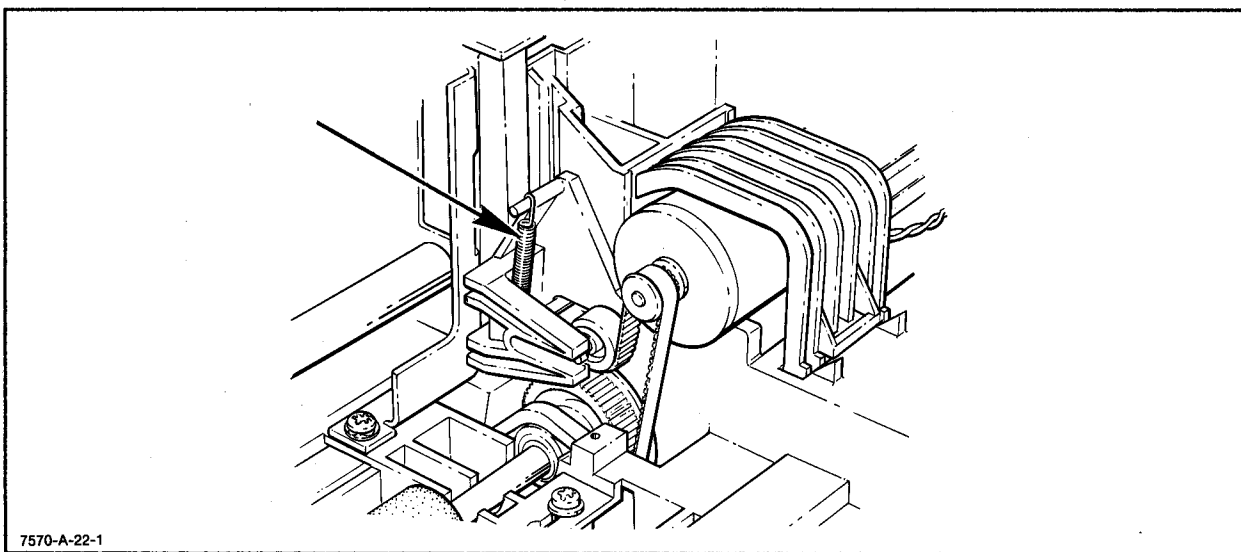

Figure 6-15. Drive Tension Spring
- c. Remove the drive tension spring with needle nose pliers or combination spring tool. See Figure 6-15.